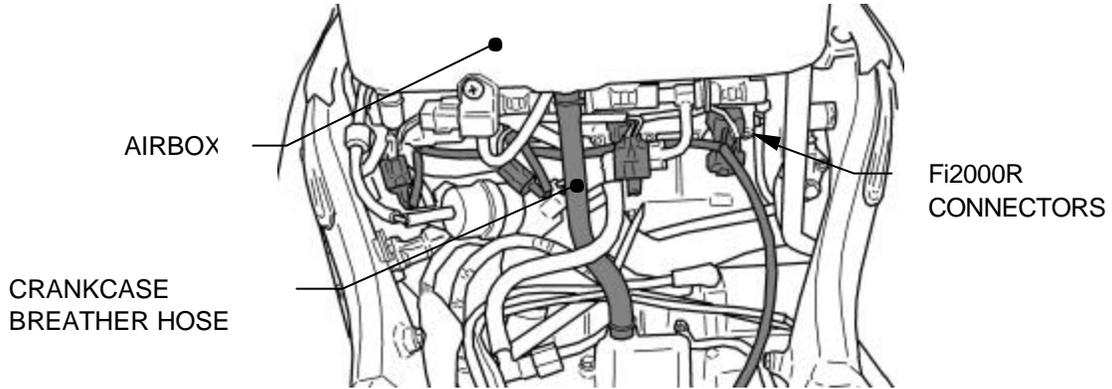

FIGURE 1
2. Place Fi2000R module temporarily in the battery area and run the wire harness up the right side of the bike just inside the main frame rail (see figure 1 & 2).
3. Unplug the top of the crankcase breather hose from the airbox (see figure 1). Then by squeezing on both sides of the factory injector connectors, pull each connector away from the injector. Starting on the left side of the motorcycle insert the connector furthest from the Fi2000R into the left injector wire connector. Then attach the next connector on the Fi2000R into the left injector. Repeat this step for all connectors. The connector closest to the Fi2000R will connect to the right most injector on the motorcycle. You may have to squeeze the locking tabs on the connector to ensure you have this connection firmly seated.